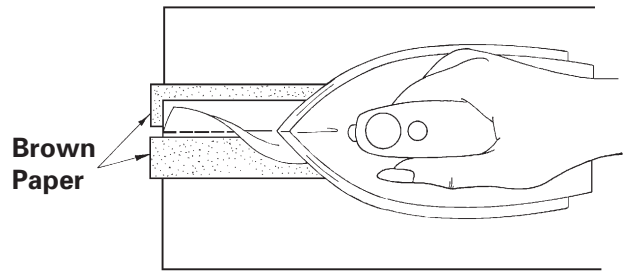

Fig. 7-4
10. Use the tip of the iron to press only the seam line itself if the fabric is likely to show pressing marks on the right side of the garment. Place a strip of brown paper cut from a grocery bag under the seam allowances as you press to avoid pressing an indentation into the outer fabric. (Fig. 7-4)